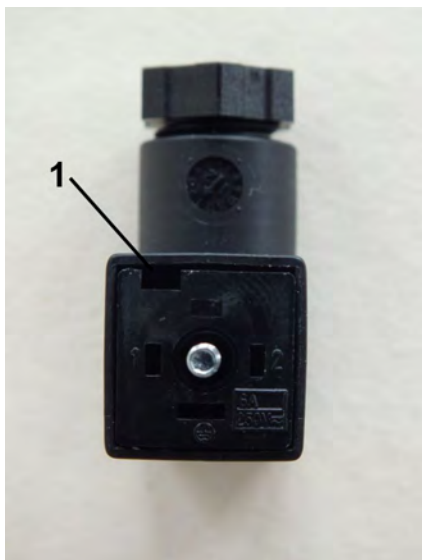

Fig. 22: Loosen inner section
- 3.** ➤ Remove the inner section from the socket by inserting a flat-bladed screwdriver into the slot (Fig. 22/1) and carefully pry out the inner section.
- 7.** ➤ Place the inner section (Fig. 22) back into the socket and push until it locks on